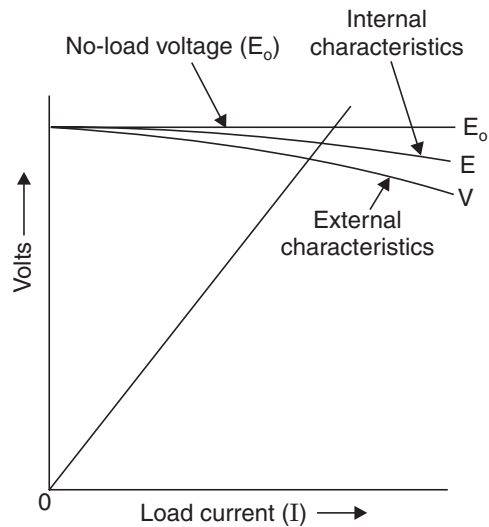

Fig. 31. Load characteristics of a separately excited generator.
- Load characteristics for a separately excited generator are shown in Fig. 31. The most important is the 'external characteristic' (or total characteristic), which indicates the way in which the terminal voltage (V) varies as the load current is increased from zero to its full load value, the speed of rotation and exciting current being constant.
- When the resistance of load is R , then voltage across its terminals is $V = IR$, where I represents the current, so that if the values of V corresponding to various values of I are calculated, the values will all lie upon a straight line such as OL in Fig. 31. The load current and terminal voltage corresponding to this resistance are given by the inter-section of the line OL with the external characteristics.